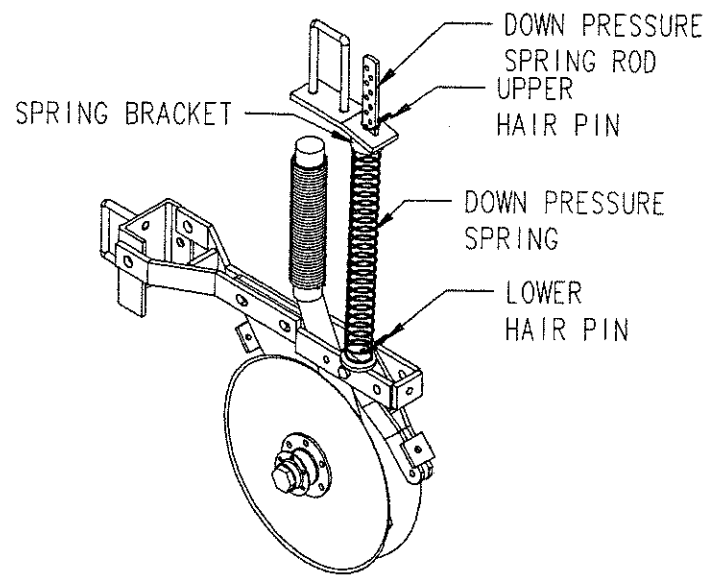
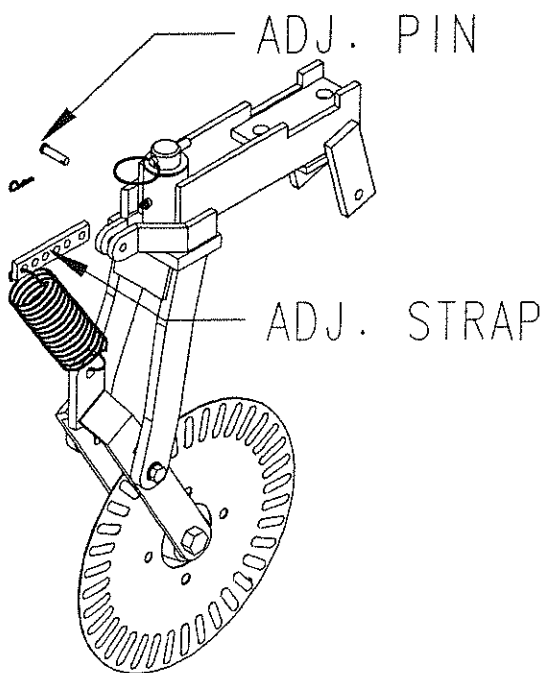

FIGURE 10
FIGURE 13
1. Set the hair pin in the top hole of the down pressure rod so that the opener can float up and down on uneven terrain (Figure 10). The press wheel will control the depth.
1. Raise the drill. Holding the press wheel in your hand, lift the unit and remove the hair pin from the top hole of the down pressure spring rod as shown in Figure 10.
3. Raise the unit back into position. Reinsert the hair pin into the top hole of the down pressure spring rod (Figure 10).
Release all spring pressures from the coulters and from the double disc openers. This is done by placing the pin in the coulters adjustment strap in the last hole in the free end of the strap. Figure 13 shows the coulters and the adjustment strap. Relieve the openers by moving the lower pin in the spring rod to the bottom hole. Figure 10 shows the spring rod and pin. Seed rate can be set according to page 10.